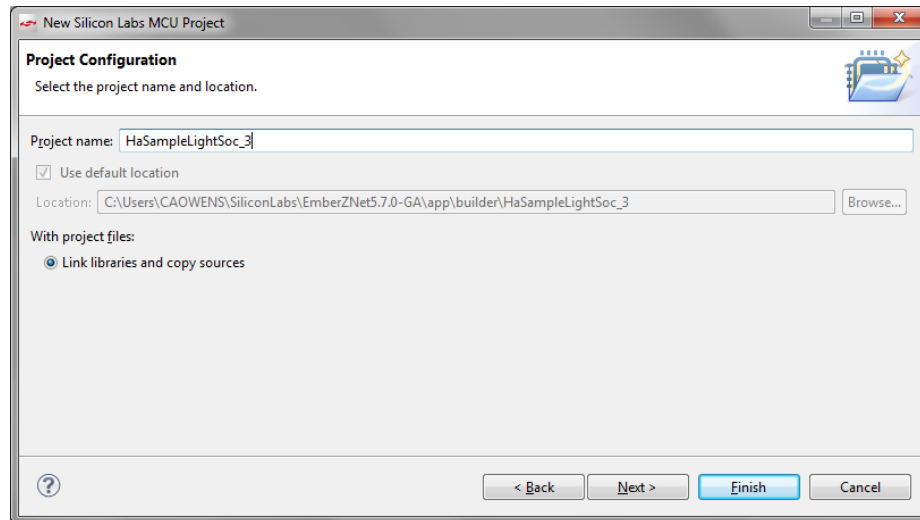
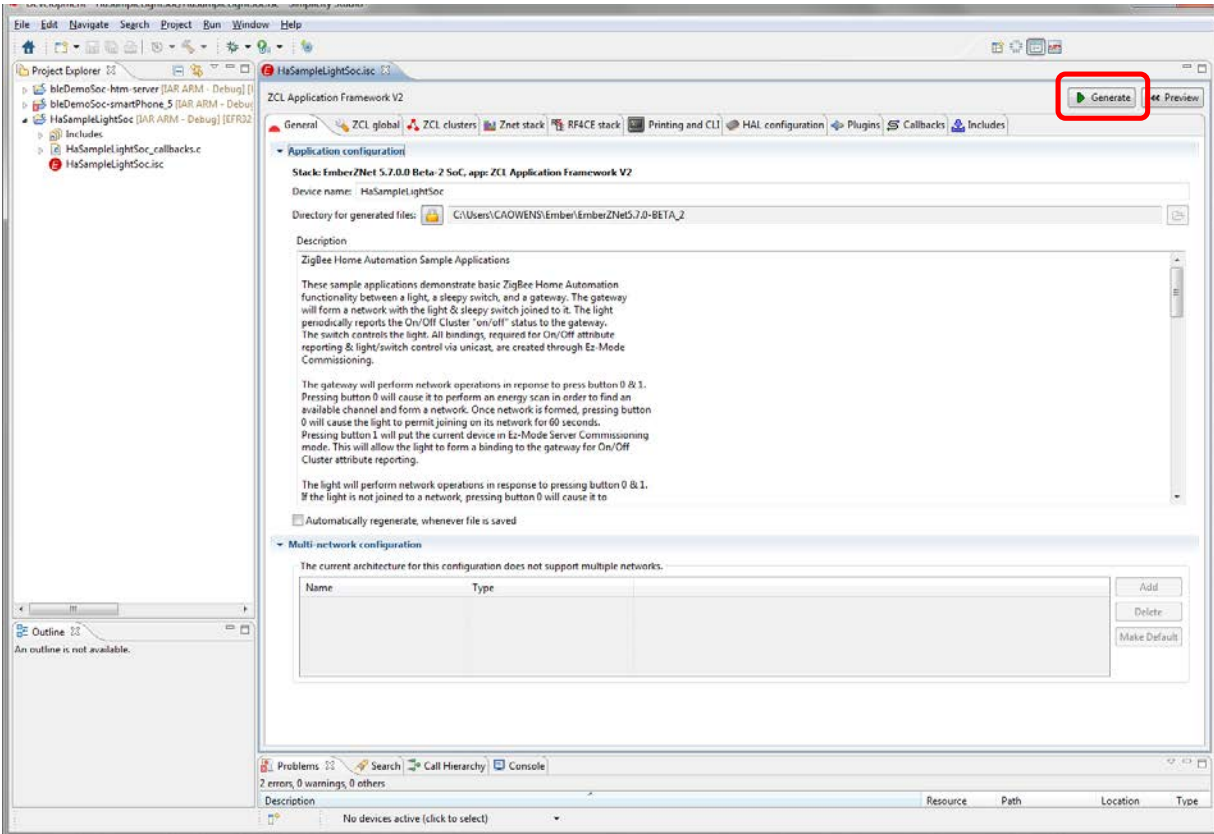

Figure 20. Project Configuration
Figure 23. AppBuilder General Tab
5. Change the name of the project if you want, and click **[Finish]** (Figure 20). AppBuilder creates an example project and opens with the project in the AppBuilder General Tab (Figure 23).
1. When you finish creating your example project, an AppBuilder General tab opens (Figure 23). Click **[Generate]**.